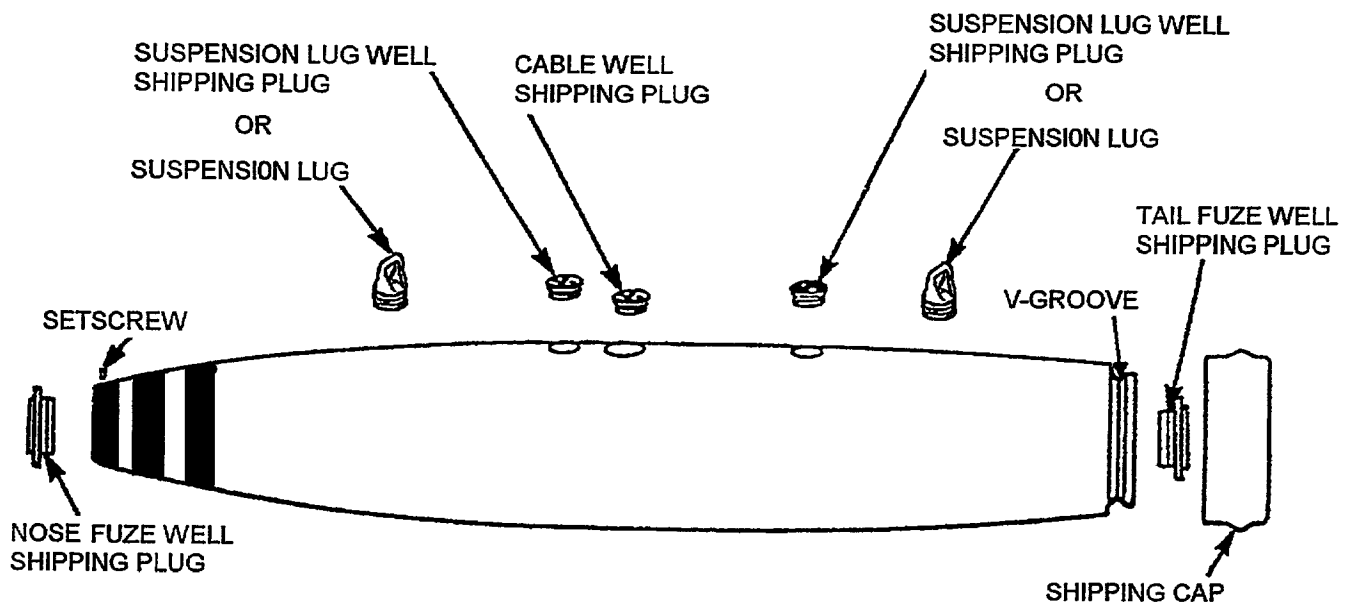
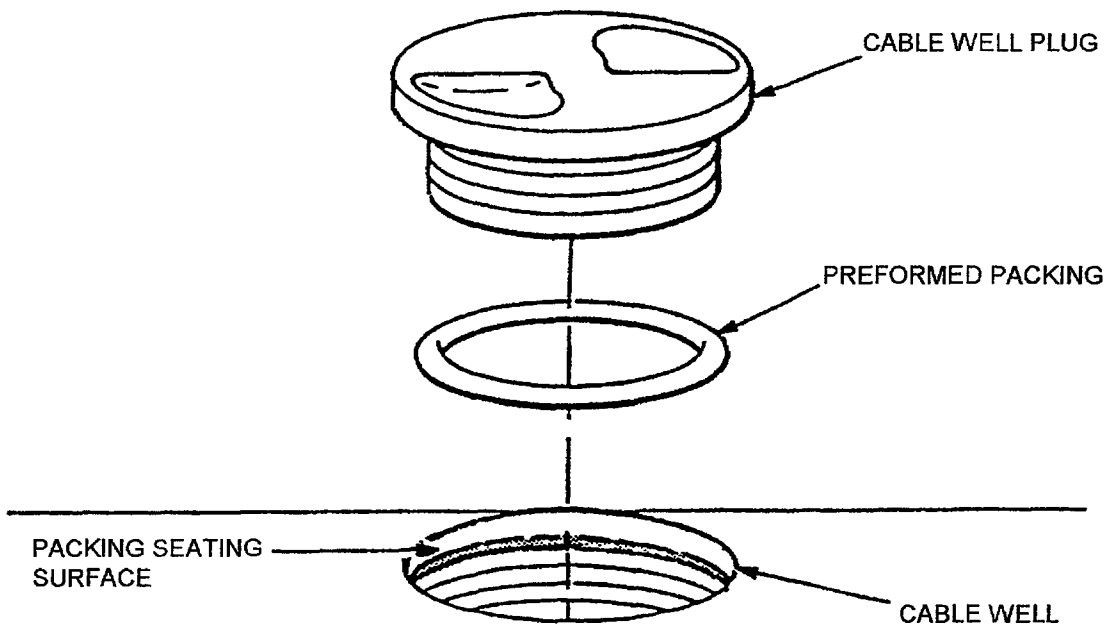
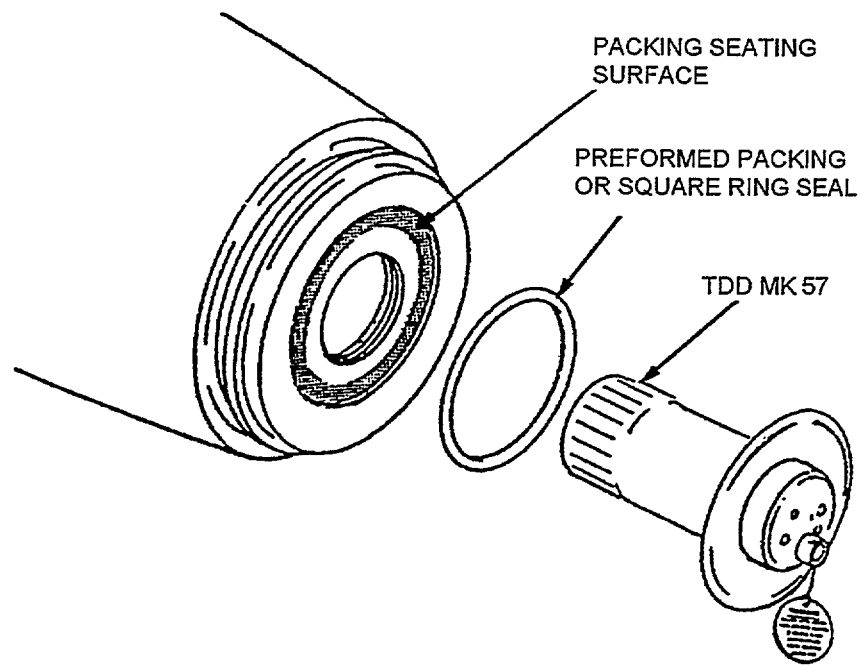

Figure 4-1A. Bomb Preparation
Figure 4-1C. Cable Well Inspection Points
Figure 4-1F. Bomb Body Mk 83/BLU-110A/B Inspection Points
- b. Remove shipping plugs from suspension lug wells, if present (Figure 4-1A).
- i. Remove cable well shipping plug (Figure 4-1A).
- j. Remove set screw and nose fuze well shipping plug (Figure 4-1A).
- (1) Verify that cable well and forward and aft fuze well are free of any exudate or foreign matter.
- (2) Verify that cable well and forward and aft fuze wells are free of any moisture, corrosion, or dirt. (Dirt or corrosion may be removed with a damp cloth.)
- (3) Verify that cable assembly connectors in both fuze wells are undamaged and aligned with bomb centerline.
- (4) Verify that bomb body does not exhibit external damage that will affect its fit or function. Ensure V-groove is clean and undamaged.
- (5) Verify that nose set screw hole is completely threaded.
- (6) Verify that all other threaded surfaces are not fouled or damaged.
- (7) Verify that preformed packing seating surfaces shown in Figure 4-1C through Figure 4-1F have no gashes, grooves, pits, or scratches deeper than 1/32 inch. Bombs with aft face
- (8) Verify that the cable well (Figure 4-1C) does not have thermal coating overspray. Restore units with overspray, by removing with pocket knife and copper wool. Using PPE per MSDS, apply a light coat of grease to cleaned area.
- (9) Verify that beveled surface is present on forward end of nose fuze well. Verify that nose fuze well threads do not extend completely to forward face of bomb. (Reject)